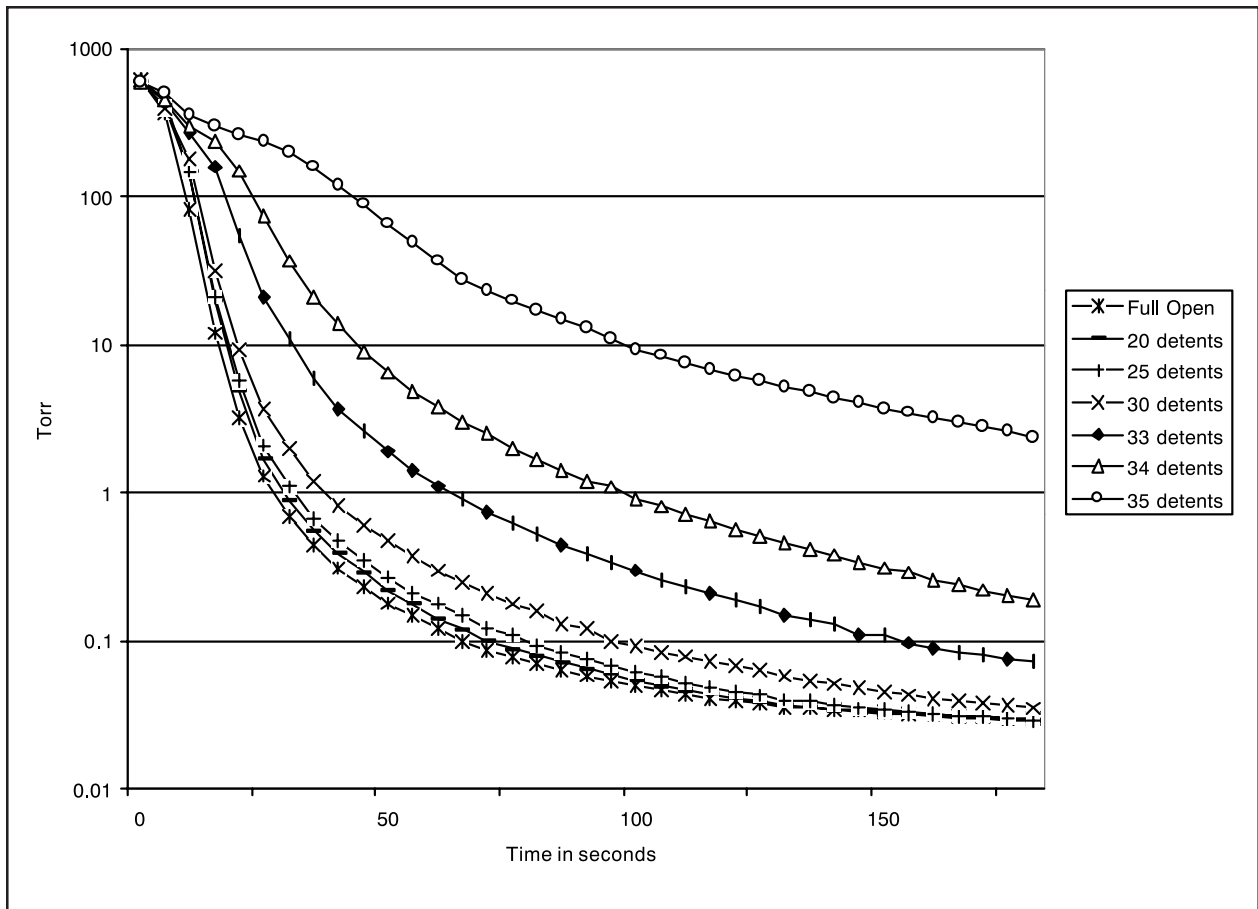

Figure 4.1:
The bypass stage of the valve is also pneumatically actuated through the right port. As pressure is applied, the bypass piston (20) is forced upward, lifting the bypass nosepiece (22) off the seat (18) and compressing the closing spring (17). This allows for a restricted flow through the small orifice on the bypass seat (18). A restricted flow will extend pumpdown times and reduce turbulent flow that may disturb particles throughout a vacuum system causing particulate contamination. Once the bypass has allowed for a soft pumpdown to a user specified pressure, the main stage may safely be opened for a higher conductance and lower base pressure. The bypass stage conductance is adjustable by turning the bypass adjustment screw (13). Turning the bypass screw fully counter-clockwise will allow for maximum conductance. The bypass screw (13) may be turned approximately 3 1/2 turns clockwise before it makes contact with the bypass piston (20), which will prevent the bypass from allowing any flow across the ports. The bypass screw (13) has machined detents that lock the screw into place during cycling. There are 10 detents per full turn. See figure 4.1 for the bypass pump-down curve.